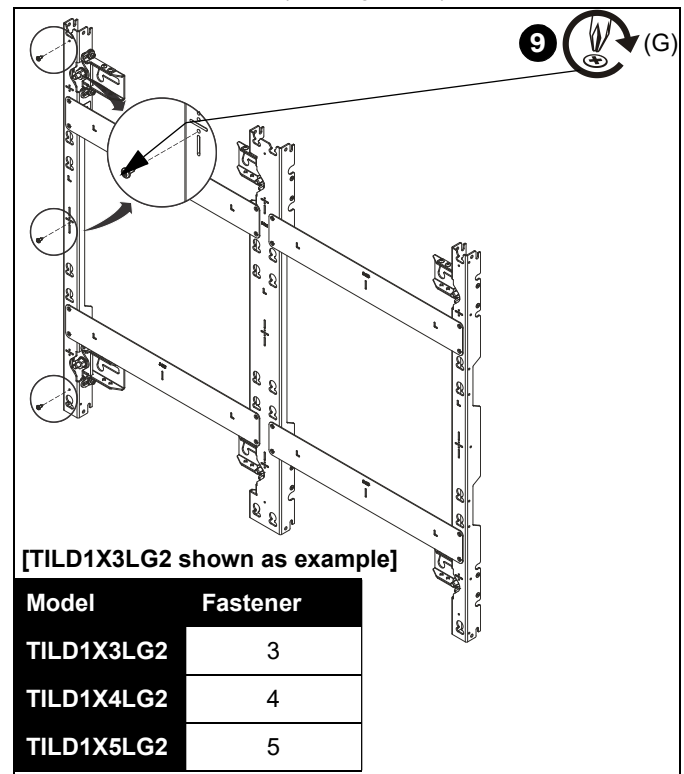

Figure 17
12. Install one #10-24 x 1" Phillips tapping screw (G) into left upper LED mounting button hole for each LED screen space. Install the tapping screws ONLY on the furthest left column of mounts. (See Figure 17)